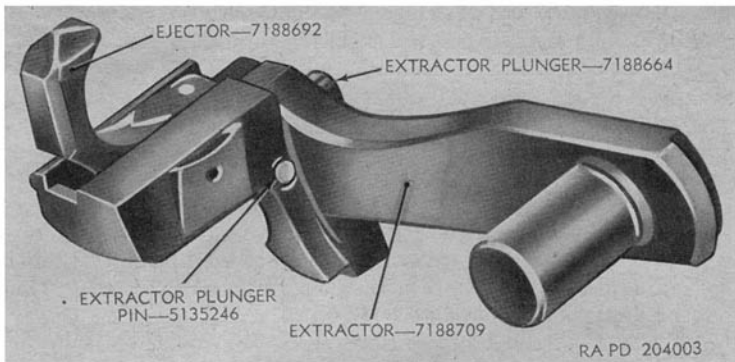
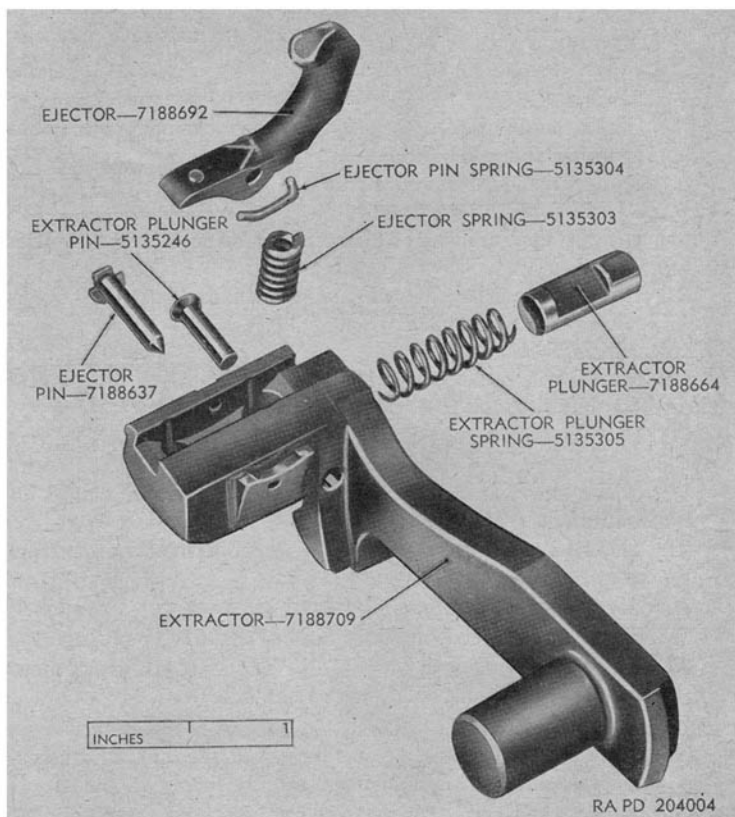

Figure 20. Extractor assembly—left-hand feed arrangement.
Figure 21. Extractor assembly—right-hand feed arrangement—exploded view.
- (1) Inspect for weak extractor cam plunger spring, broken or worn ejector (fig. 20), and loose extractor plunger pin or ejector pin (fig. 21).
- (2) Examine the ejector and extractor plunger (figs. 20 and 21) for burs.
- (3) Inspect the face of the ejector to see that it is free from burs and brass. Its contact outline should not be worn.
- (4) Inspect the ejector to see that the ejector pin is flush with extractor surface. When assembled into the gun, its action should be free.
- (5) Examine the extractor to see that it is not bent and that the claw is not worn or burred.